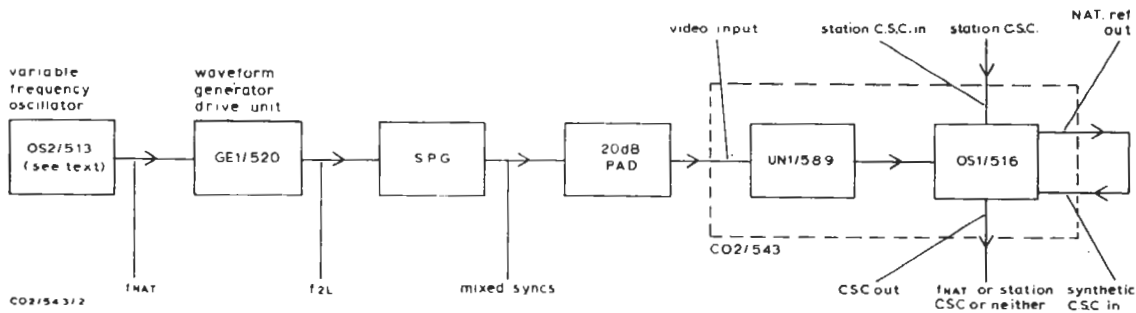

Fig. 2. Test Circuit for the OS1/516
10. Set up the circuit of Fig. 2.